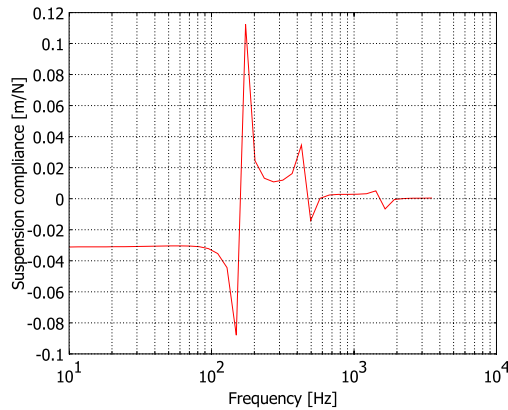

Figure 3-33: Suspension compliance (m/N) vs. frequency (Hz).
- 18 Click **Plot** to plot the compliance vs. frequency. Compare your result to Figure 3-33 (again, a logarithmic frequency scale, has been used).